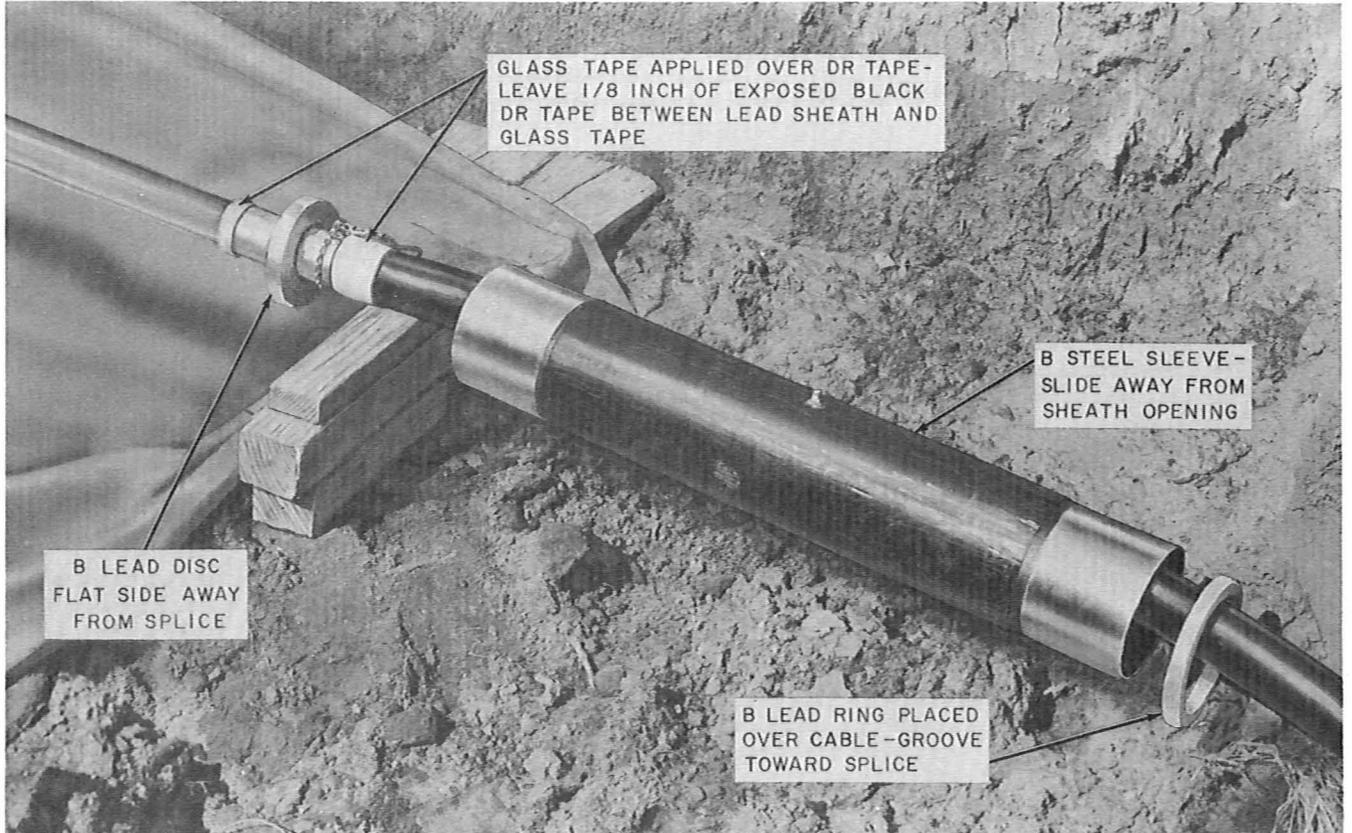

Fig. 6—Ring, Sleeve, and Disc Installed on Cable
5.05 Slide the steel sleeve over whichever end of the cable is most convenient and away from the sheath opening (Fig. 6). *Exercise care to protect both the solder-coated portion and the tape-coated portion of the steel sleeve during placing and splicing operations.*